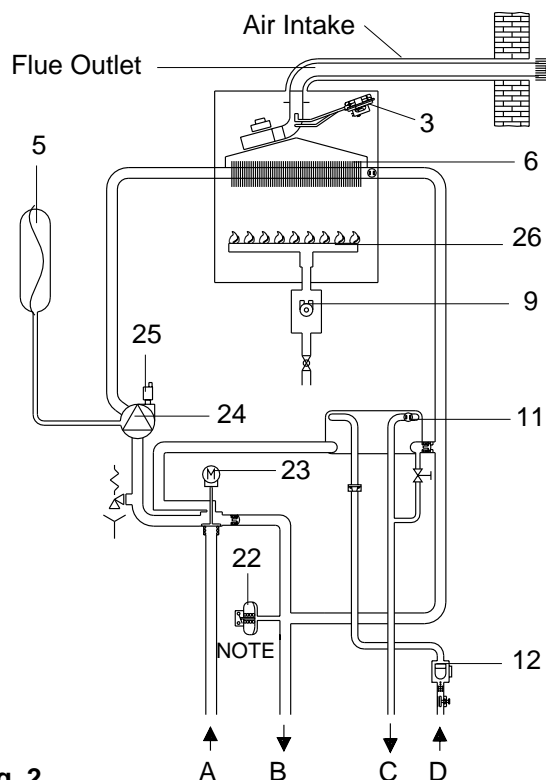

Fig. 2
2.1 Fig.1 illustrates the general layout of components. Fig.2 illustrates the operating principles described below.